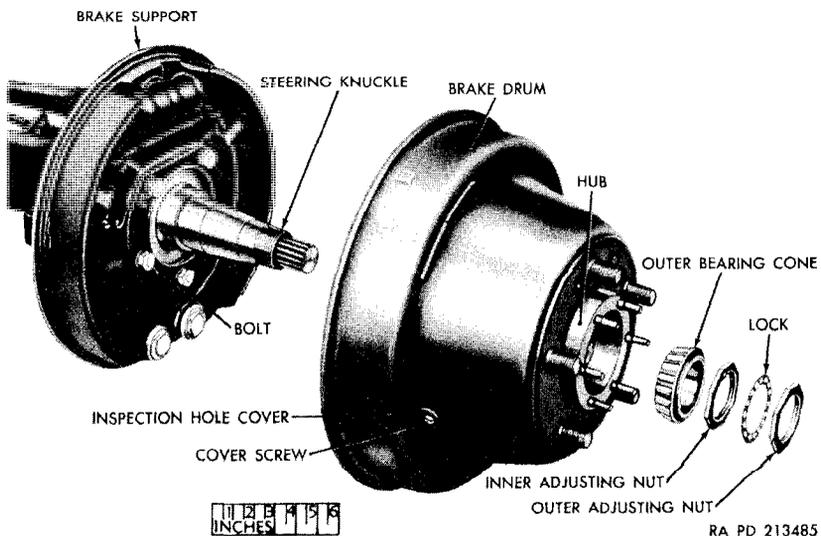

Figure 173. Front wheel hub and drum and related parts—exploded view.
- (4) Pull the hub and brake drum part way off the steering knuckle to free the outer bearing cone, remove the cone, the hub, and brake drum (fig. 173).
- (2) Remove the five bolts and lockwashers that secure the brake support and steering knuckle to the steering knuckle flange. Remove the brake support (fig. 173).
- (2) Fit the male half of the universal drive joint on the inner shaft and insert the shaft into the axle housing, engaging the splined end of the shaft in the differential gear.
- (3) Fit the female half of the universal drive joint on the outer shaft and insert the shaft through the steering knuckle. Engage the female half of the universal drive joint with the male half and position the steering knuckle on the knuckle flange (flat side up), aligning the bolt holes. Tap the steering knuckle into place with a plastic hammer.
- (4) Position the brake support over the steering knuckle (fig. 173), aligning the bolt holes in the support with those in the knuckle and flange. Install the five $\frac{1}{2}$ -inch lockwashers and $\frac{1}{2}$ -13NC x $1\frac{1}{2}$ bolts. Tighten the bolts to 80–85 pound-feet torque.
- (5) Clean the contacting surfaces of the brake line inlet connection and the wheel cylinder, and position the connection on the cylinder. Install the bolt gasket and the bolt. Tighten the bolt.
- b. *Install Hub and Drum* (fig. 173).
- (1) Apply a light film of grease to the inside of the hub and the steering knuckle to prevent rust.
- (2) Install the assembled hub and brake drum on the steering knuckle.
- (3) Lubricate the outer bearing cone with automotive and artillery grease, using a roller bearing lubricator or kneading the grease into the bearing with the fingers. Do not over-lubricate. Install the cone on the steering knuckle, and install the inner bearing adjusting nut with the lock pin toward the outside. Screw the nut on the steering knuckle, using the